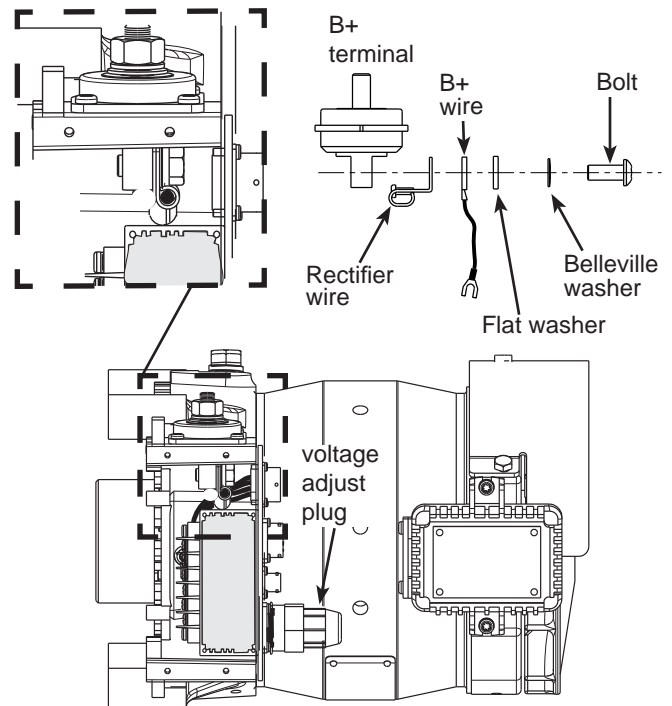

Figure 2 – Internal B+ Stacking Order
17. Reconnect wiring removed from internal B+ stack in step 11 according to the stacking order shown in Figure 2. Torque to 28-29 Nm/20.8-21.6 lb. ft.